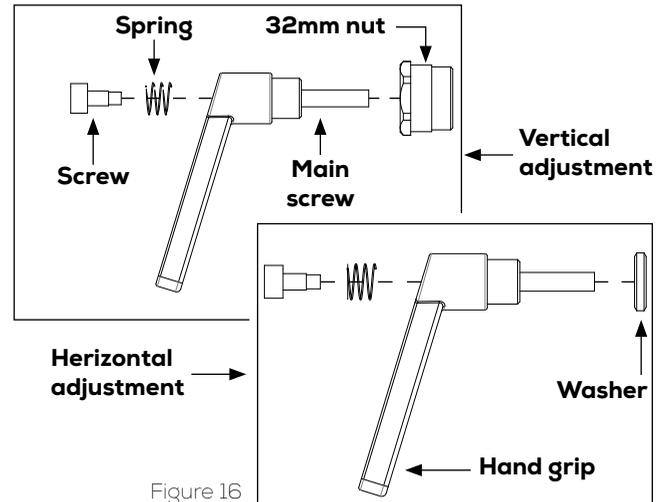

Figure 16
1) Remove the adjustment handle and disassemble the handle completely into a screw, a spring, a handlegrip, a main screw and a brass washer, see figure 16. Do this with both the horizontal and vertical adjustment handle.